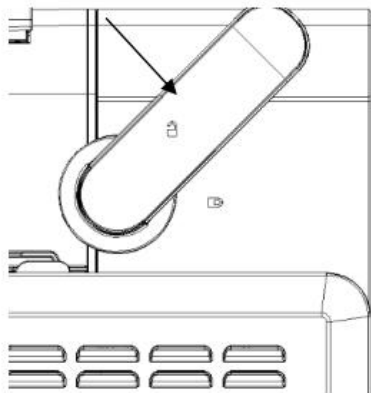

Figure 3
1. Unplug the power connection, turn the charging barrel switch to the unlocking position (as shown in Figure 3), remove the charging barrel, and then take out the mixing fan blade to clean it and dry it with a towel.